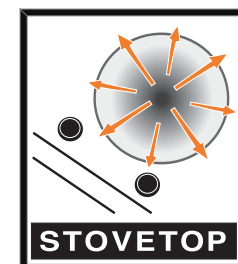

Fig. 14c
- The **Side burner**, if equipped, boils, sautés, stir fries or warms all with equal aplomb. Plus its high power is more than adequate for deep frying seafood, vegetables and meats or hard boiling soups, lobsters or corn on the cob (see Fig. 14c).